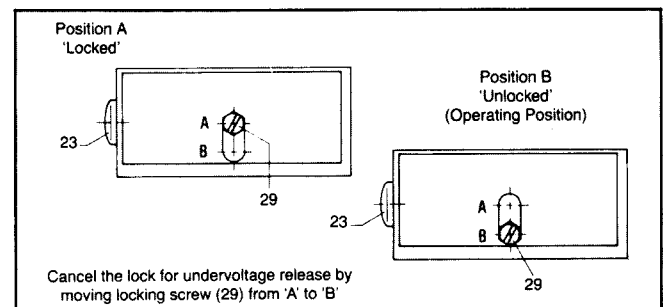

Figure 17c. Undervoltage Blocking Feature
Since the striker pin of the undervoltage release is latched only when the armature is attracted, this trip is fitted with a screw, (29) (Fig. 17c), for locking the striker pin, (23), in the normal position for adjusting purposes or for carrying out trial operations during breaker servicing.